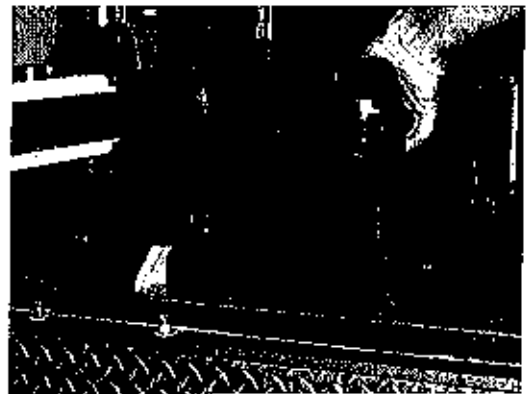

Figure 34
4. **Operator 2** – Pull the safety bar release lever forward to disengage the safety bar from the safety hook in the patient compartment as shown in Figure 34.